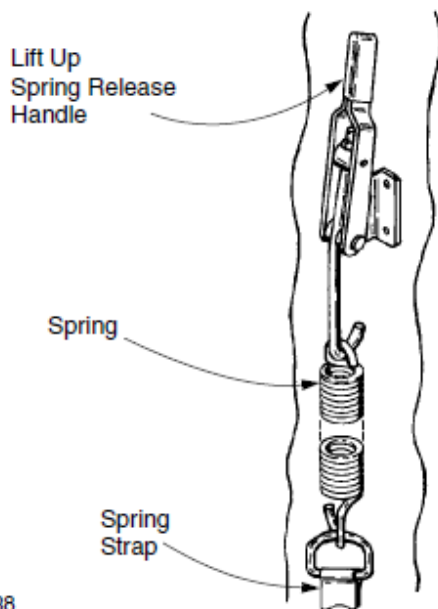

Figure 35
5. Inspect each spring strap for wear and tear, and frayed edges. (See Figure 35) Replace if required. (See "SPRING STRAP REPLACEMENT" on Page 29)